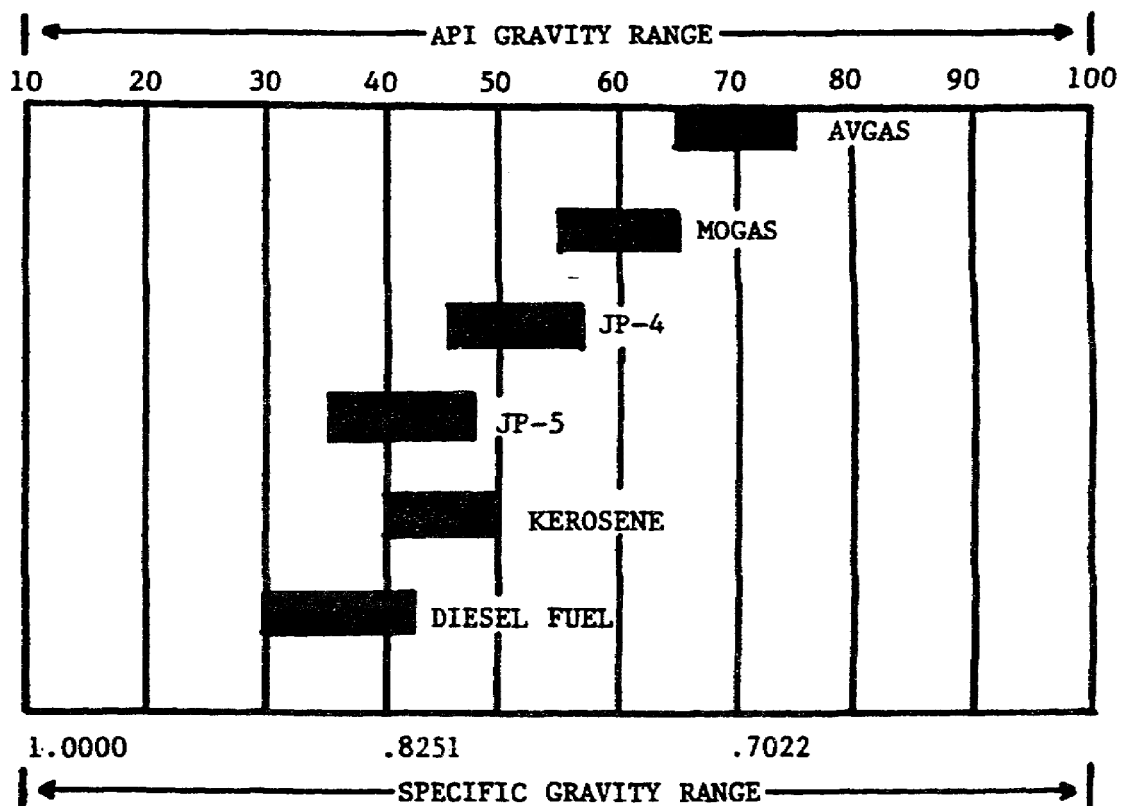

Figure 5. API gravity scale for petroleum products.
(1) To determine which product should be batched (pumped) behind another, you must consider not only the product demands, but also the API gravity of each product. Products should be injected into the pipeline in a sequence so that the new product has an API gravity as close as possible to that of the previous product. By following this procedure you will generate smaller, usable interfaces. Products likely to be batched in military multi-product pipelines include aviation gasoline (AVGAS), automotive gasoline (MOGAS), jet fuel (JP), kerosene (KERO), and diesel fuel (DF). Figure 5 shows the common API gravity ranges for these products.